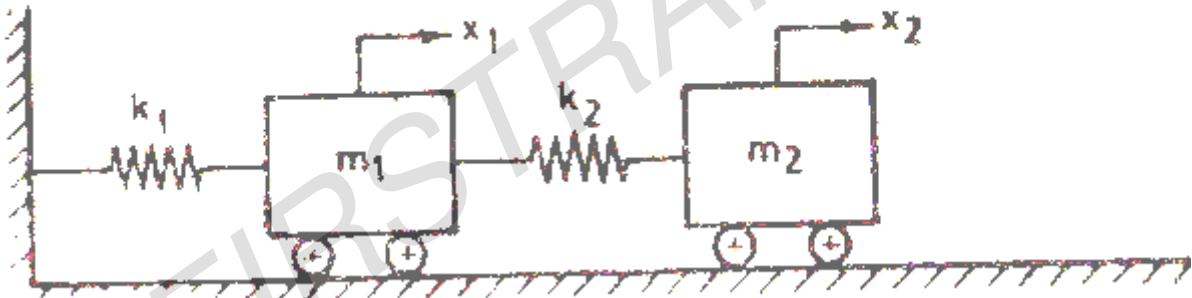

Figure 4:
- Find the natural frequencies and mode shapes for the system as shown in figure 4. [16]